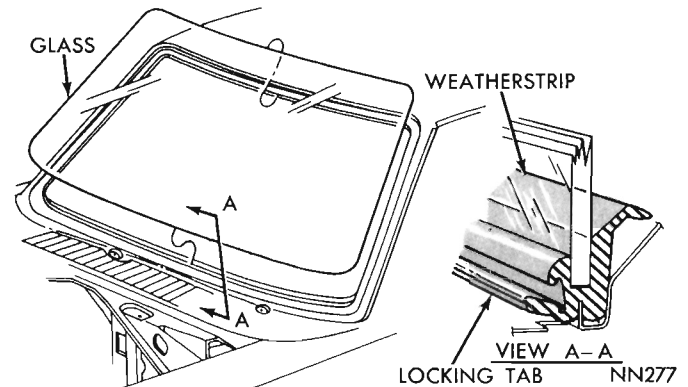

Fig. 2 Windshield Installation
(1) Remove all old sealer and cement from original weatherstrip.
(2) Apply sealer in fence and glass groove portions of weatherstrip.
(3) Apply a 3/8 inch bead of sealer completely across cowl top panel lower windshield frame area (Fig. 2).
(4) Position weatherstrip lower section to tab area, starting at corners install over tabs and work toward center.
(5) Install weatherstrip on fence at sides and upper opening. With hand pressure, seat weatherstrip fully on fence.
(6) With an assistant, slide upper edge of glass into channel of weatherstrip. Use a fibre tool to force weatherstrip lip over glass.
(7) Seat glass in weatherstrip, pounding glass with palm of hand using an upward motion.
(8) Insert a fibre tool between weatherstrip and glass, at either corner, slide tool across top, completely around weatherstrip to seat glass in place.